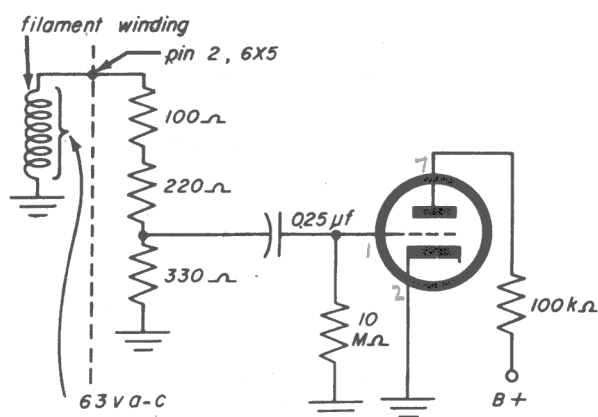

Fig. 25-12
Step 9. Connect the lead from the 0.25- μ f capacitor to the junction of the 220-ohm and 330-ohm resistors. Compare your chassis with the circuit shown in Fig. 25-12. When your connections are correct, proceed with the next step.